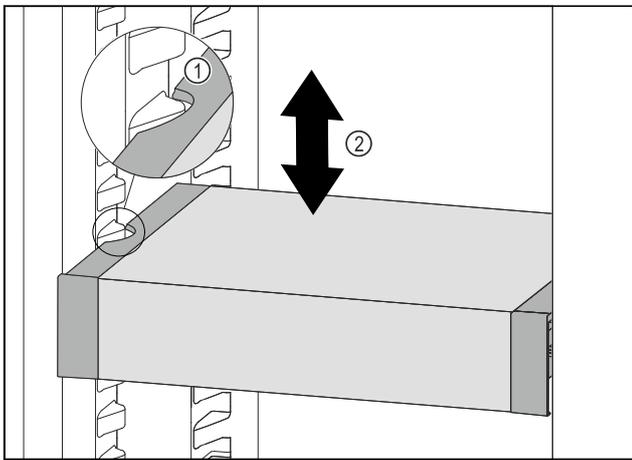

Fig. 79
- ▶ Pull VarioSafe forwards until the recesses in the side of the VarioSafe are at the level of the support rib in the refrigerator compartment. Fig. 79 (1)
- ▶ Move VarioSafe up or down in the refrigerator compartment until the desired height is reached. Fig. 79 (2)